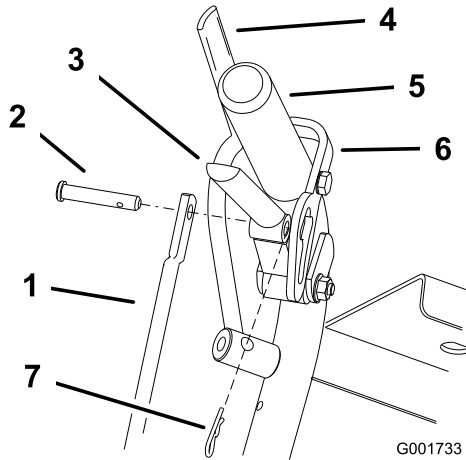

Figure 37
1. Adjust the rod length by releasing the drive lever and removing the hairpin cotter pin and clevis pin. Rotate the rod in the rod fitting (Figure 37).
4. Place the clevis pin into the drive lever (Figure 37).